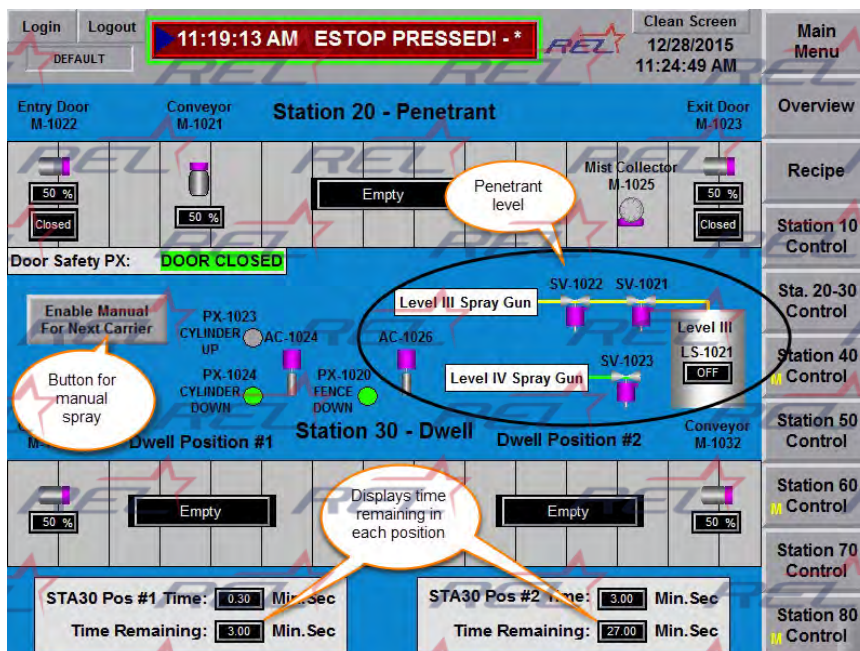

Figure 15: Stations 20 & 30- Penetrant & Dwell
The Control screen for Stations 20-30 (Figure 15) shows the Penetrant Station (20) and the Dwell Station (30). If the Penetrant Level inside the drum gets too low, the indicator on the screen will turn “OFF” (Figure 15) and an Alarm will display. The operator should then replace the drum. The actual level of the Penetrant can be read on the drum.